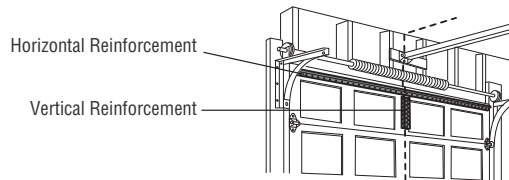

FIGURE 1
1. Drill 3/16" fastening holes. Secure the door bracket using the two 1/4"-14x5/8" self-threading screws. (Figure 1)